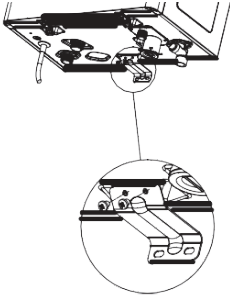

Figure 16
8. Loosen the screw indicated in Figure 16 and connect a manometer to the pressure port. Reset the manometer to zero before use.